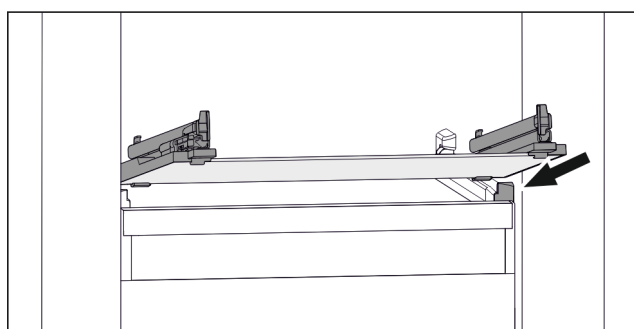

Fig. 79 Example illustration of glass shelf
- Position glass shelf at an angle behind the stoppers. (see Fig. 79)